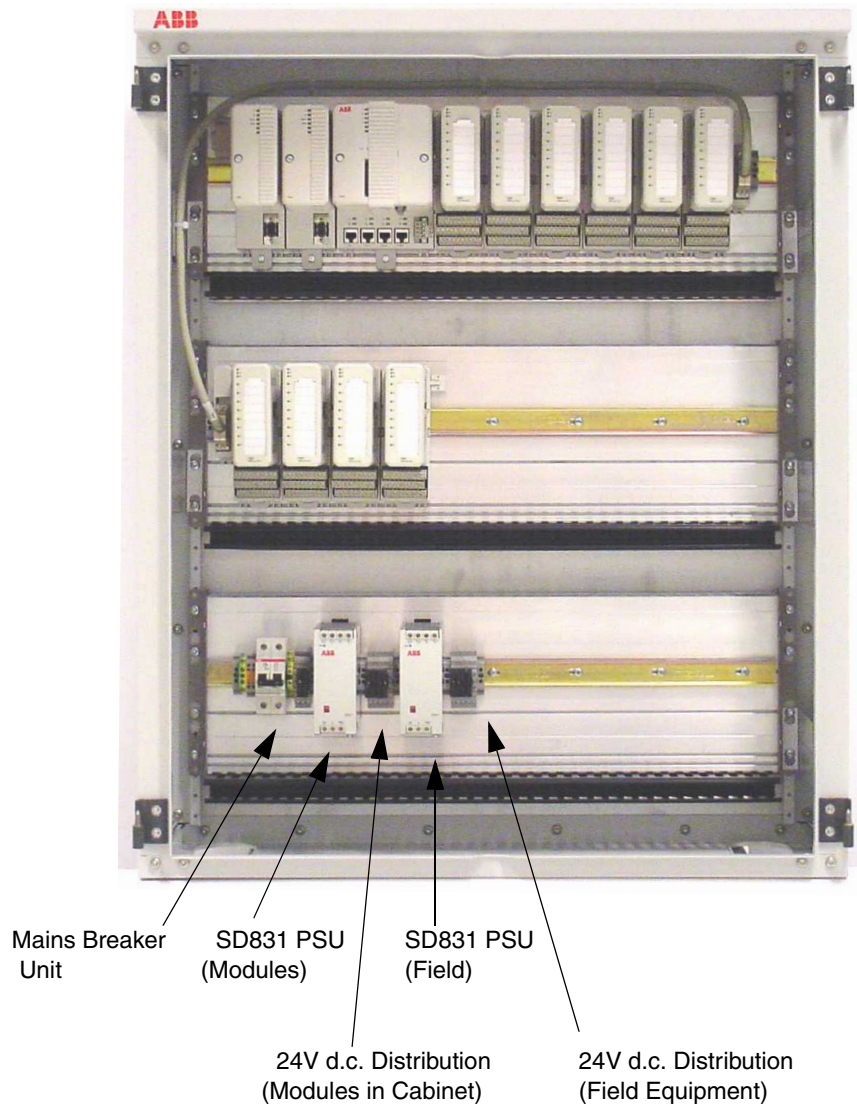

Figure 50. Wall Cabinet - Dual Power Supply (Local/Field) Arrangement
- Figure 50 on page 115, Wall Cabinet - Dual Power Supply (Local/Field) Arrangement